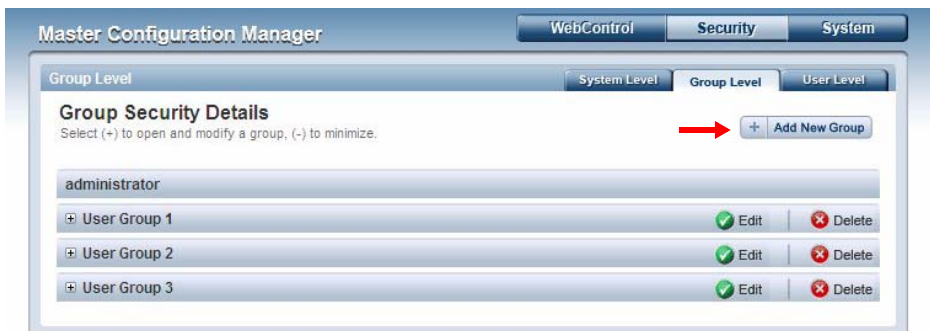

FIG. 39 Group Security Details page
Select the *Group Level* tab of the Security Page to access the **Group Security Details** page (FIG. 39).
2. Click the **Add New Group** button (see FIG. 39) to access the **Add a group and modify settings** page (FIG. 40).